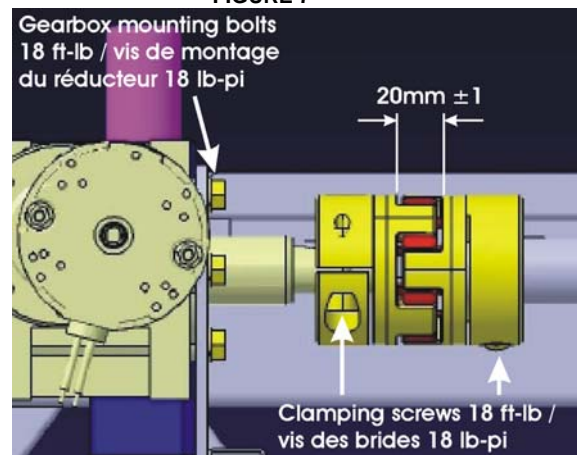

FIGURE 8
11. Reinstall the motor/gearbox assembly using the mounting holes opposite to the gearbox cover. Use 4 mounting bolts. Tighten mounting bolts to a torque of 18 ft-lb in a criss-cross pattern (figure 8).
- b. Reconnect the clamping hubs. If necessary, rotate the motor shaft extension by hand to align the clamping hubs. Leave a gap of 20mm (13/16" approx) between each clamping hubs as shown on figure 8.
- c. Tighten clamping screws to a torque of 18 lb-ft (figure 8).